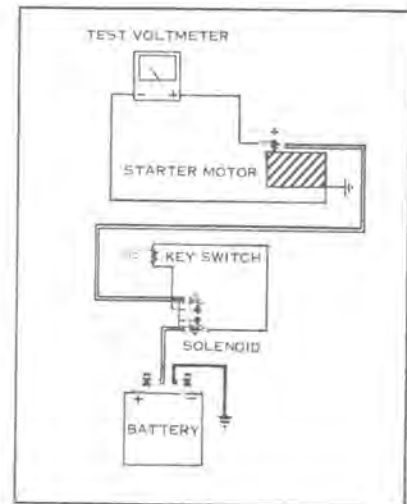

Figure 7-41
- c. Connect a voltmeter across starter motor (see Figure 7-41), with positive (+) lead to starter motor terminal, and negative (-) lead to ground on starter frame.